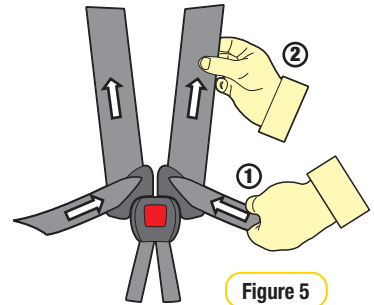

Figure 5
**Step 5:** Remove all of the slack for the harness lap straps by pulling shoulder straps (refer Figure 5), then pull the harness adjustment strap to adjust harness to a comfortable but firm fit (refer Figure 5 & 6).